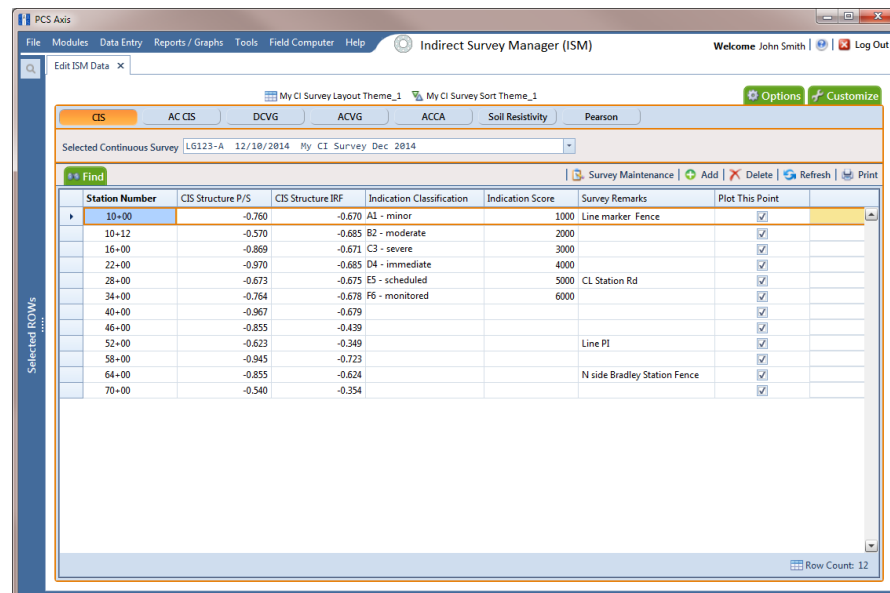

Figure 7-71. Edit ISM Data
- 4 Click the button labeled with the type of continuous survey data you want to work with, such as the **CIS** button  (Figure 7-71).